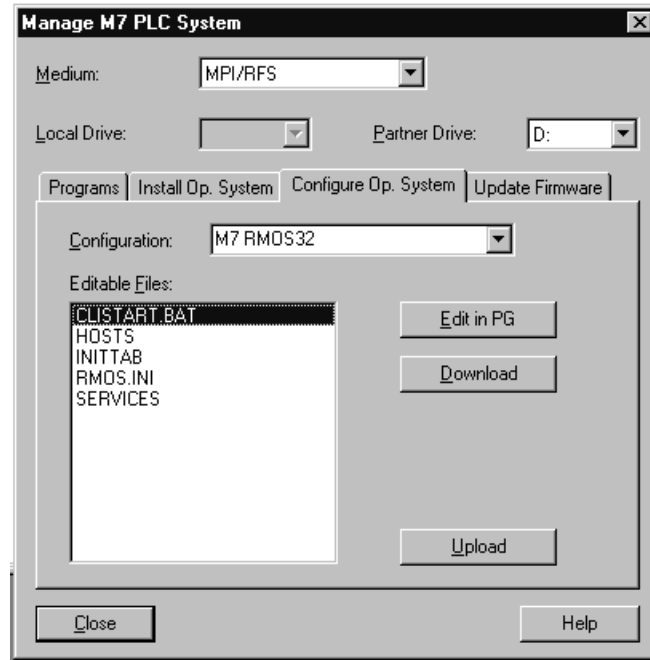

Figure 3-3 “Configure Operating System” Tab
2. Call the menu command **PLC ► Manage M7 PLC System** and open the “Configure Op. System” tab (see Figure 3-3).
3. In the “Medium” field, select the transfer medium for uploading into the programming device (PG).